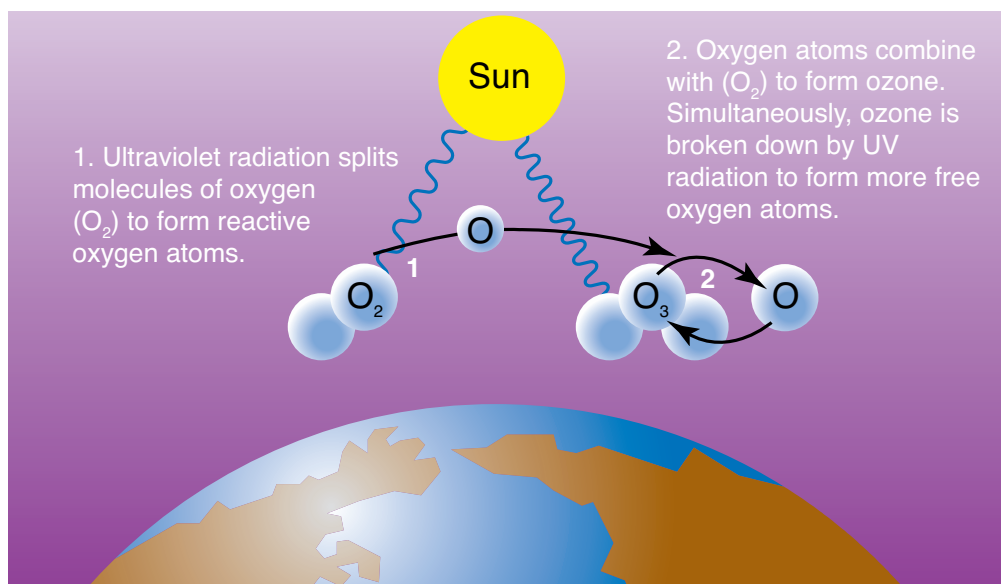

Figure 1
The Sun is the source of all energy for our planet. However, the *ultraviolet (UV) radiation* produced by the Sun is very powerful and can cause a great deal of damage. The *stratosphere* of the Earth's atmosphere contains a combination of gases that form a protective layer against the most harmful solar rays. One of the gases found in the stratosphere is *ozone*, a compound of three oxygen molecules (O_3), that prevents much of the ultraviolet radiation from reaching Earth's surface. Ozone is naturally created, broken down, and replenished within the atmosphere. First, molecules of O_2 react with UV radiation, causing them to split into very reactive single oxygen atoms. These atoms attach to O_2 molecules in the stratosphere, creating O_3 (see Figure 1).